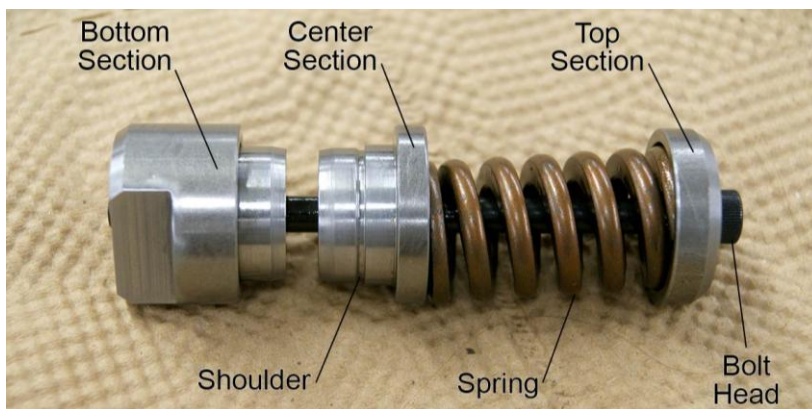

Figure 3
2. Remove the bottom section from the ST-531, Connecting Rod Bushing Press-Out Verification Tool (Figure 3) (available from Lycoming Engines).